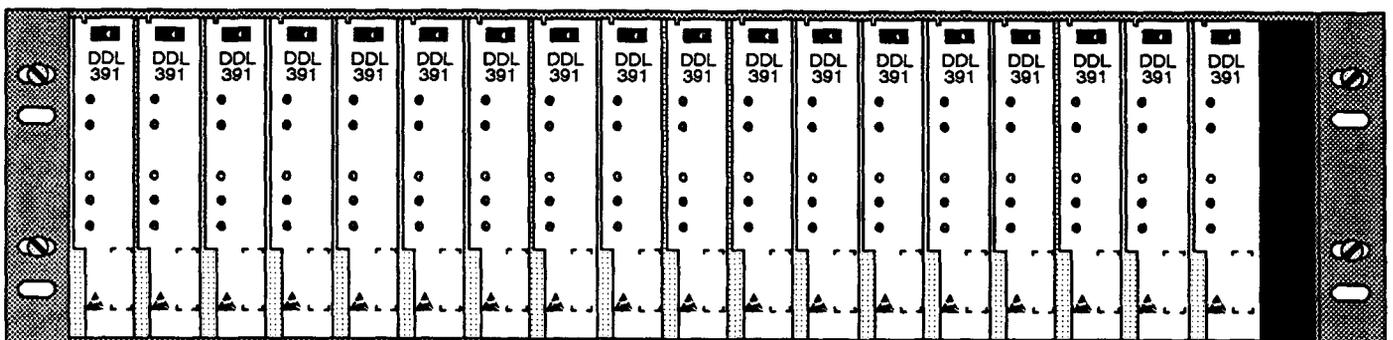

Figure 4. Shelf Showing DDL391 Line Unit Mounting
5.01 Wescom DDL391 Line Unit mounts in one position of the an AML II or AML III shelf. See Figure 4.